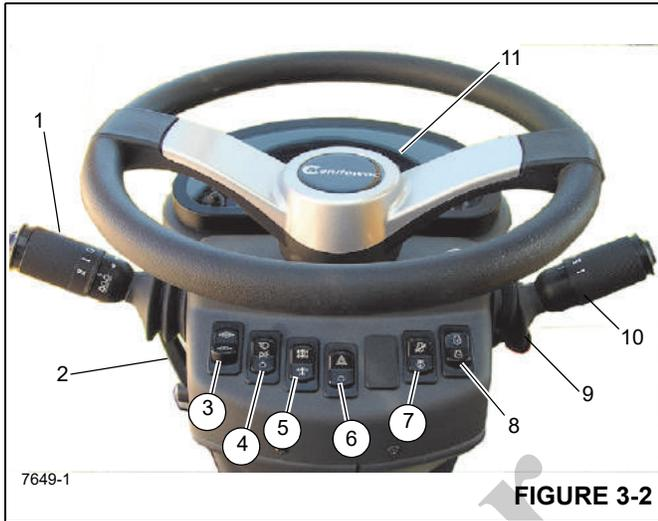

Figure 3-2 Item Numbers
All the controls and indicators to operate and monitor crane functions are found inside the crane cab Figure 3-2 and include the following:
The steering column assembly in Figure 3-2 is a pedestal style tilt and telescoping steering column. It has the ability to
tilt forward 30° or be raised vertically approximately 60 mm (2.5 in). It also includes the ignition switch and the CANbus gauge display (11) (Figure 3-2).
The Turn Signal Lever And Windshield Wiper/washer Controls (1) (Figure 3-2) are located on the left side of the steering column. Pushing the turn signal lever down causes the left front and left rear turn signals to flash. Pushing the turn signal lever up causes the right front and right rear turn signals to flash.
The steering control column can be rotated forward approximately 30° and raised approximately 60 mm (2.5 in). Move the control lever (2) (Figure 3-2) down to lock the steering column in place; rotating the lever up releases the steering column for the require adjustments.
The Park Brake Control Switch (3) (Figure 3-2) is located on the front of the steering column. This two-position rocker switch (ON/OFF) is used to apply and release the parking brake on the drive line. The red Park Brake Indicator light on the steering column is illuminated when the pressure switch in the brake release system is activated and the brake is applied.
The Headlights Switch (4) (Figure 3-2) is located on the front of the steering column. This three-position rocker switch (OFF/Park/Headlight) controls operation of the instrument lights, switch LED's, and the marker lights on the front, rear, and side of the crane. When the switch is in the ON position, the steering column and switch lights are illuminated.
The Drive Axle Selector Switch (5) (Figure 3-2) is located on the front of the steering column. This two-position rocker switch is labeled two-wheel drive (high range) and four-wheel drive (low range). The switch controls a solenoid valve (energized for two-wheel drive) that operates the speed range and axle disconnect cylinders on the transmission. When the switch is in the four-wheel drive position, the Drive Axle Indicator light on the steering column is illuminated.
The Hazard Lights Switch (6) (Figure 3-2) is located on the front of the steering column. The switch is a two-position rocker switch (ON/OFF) that causes the four turn signal lights to flash at the same time when the switch is positioned to ON. When the switch is positioned to ON, the turn signal indicator lights on the steering column will flash.
The Test Mode Switch (7) (Figure 3-2) is used when servicing the engines electronic control system. It is a two position on/off rocker switch used to activate the diagnostic mode (fault codes). The ignition switch must be ON but the engine not running. When the Test Mode Switch is ON, and is used in conjunction with the Idle/Diagnostic Mode Switch, access will be gained to scroll up or down through the fault codes.
The Idle/Diagnostic Mode Switch (8) (Figure 3-2) is a three position (+/-) momentary rocker switch that provides idle-control inputs that increases and decreases the engine idle (when the Test Mode Switch is in the OFF position) or scrolls up or down through the diagnostic mode fault codes when the test mode switch is in the ON position with the engine not running.
The Transmission Shift Lever (10) (Figure 3-2) is located on the right side of the steering column. The control lever operates the transmission selector valve electrically. Positioning the lever up actuates forward and positioning the lever down actuates reverse. When the lever is in neutral, it rests in a detent. To move the lever up or down, pull back on the lever first. To shift the transmission to first, second, or third gear, rotate the knob to 1, 2, or 3.